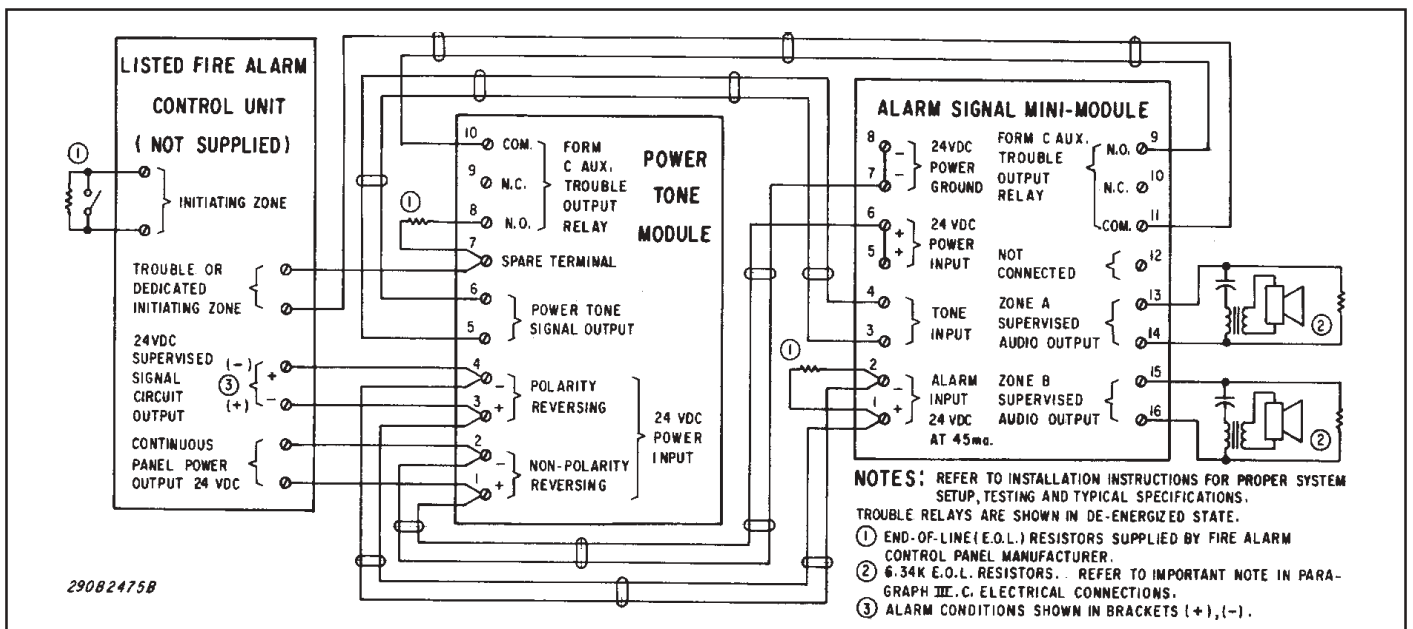
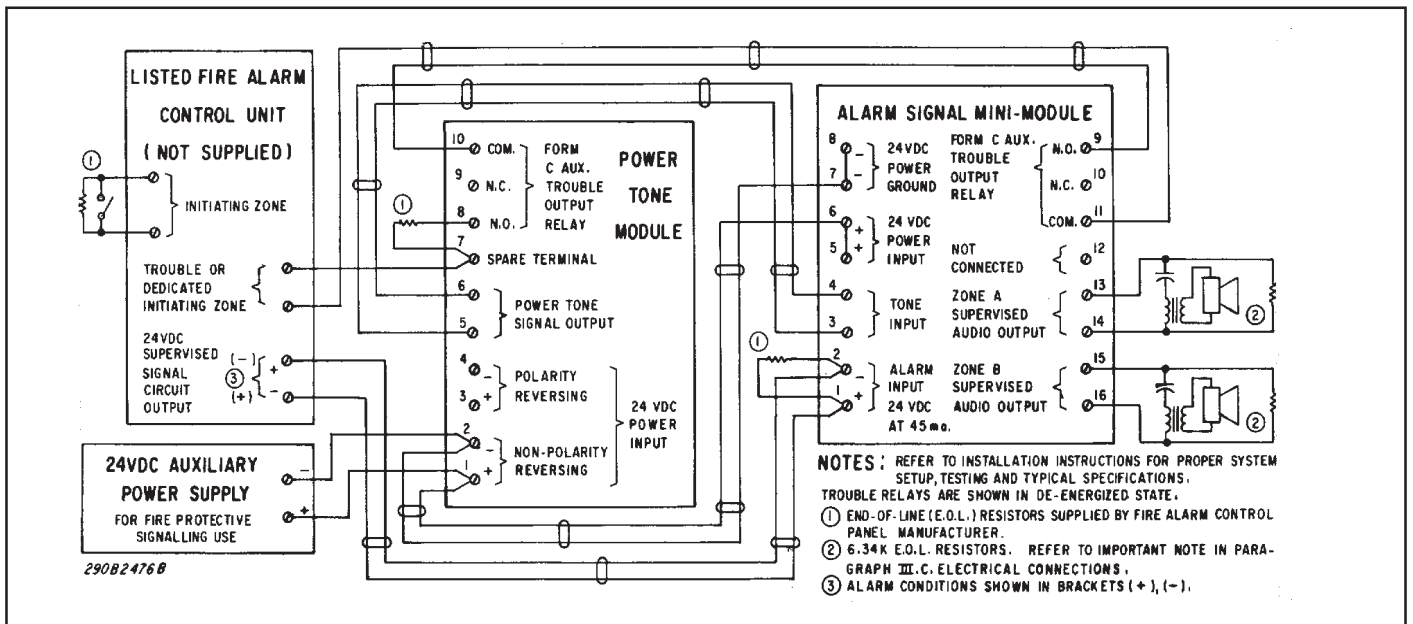

Figure 2.
Figure 3.
*Determine if the existing fire alarm control unit can provide the additional current required to operate the Power Tone Module and Alarm Signal Mini-Module(s) in both the supervisory and alarm conditions. If the new system's current requirements exceed the capability of the fire alarm control unit in both conditions, use one or more Listed auxiliary power supplies (as required) to meet or exceed the new system's current requirements. Use figure 2 or figure 3 as a guide and wire the system.*
Figures 2 through 5 show End-of-Line (EOL) resistors as part of the circuitry. As noted, some of the EOL resistors are provided by the Fire Alarm Control Unit manufacturer. Alarm Signal Mini-Modules are supplied with a 6.34K ohm resistor connected across each set of audio output terminals. When connecting a speaker to an output, remove and discard the 6.34K ohm resistor, and install an EOL resistor (CPG part number 6.34K) as shown in the applicable figure.
1. See figure 2 for typical system wiring when the fire alarm control unit is capable of providing current for the entire Fire-Protective Signalling System.
2. See figure 3 for typical system wiring when one or more Listed auxiliary power supplies for Fire-Protective Signalling Systems are required.